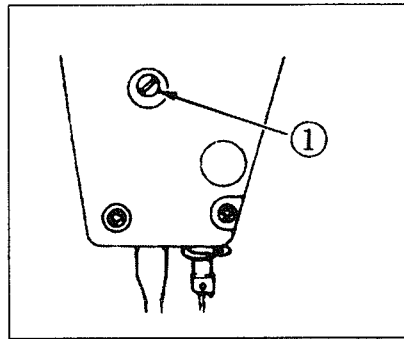

Fig.21
15.ADJUSTING THE HEIGHT OF THE PRESSER BAR (Fig.21)